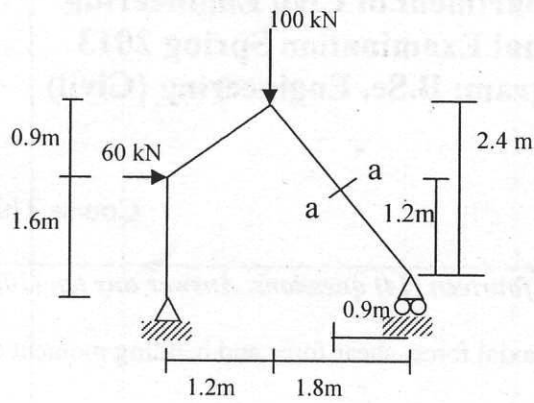

Fig.4
4. Calculate the reactions at supports in the following frame structure shown in Fig.4 and also find out the Axial Force, Shear Force and Bending Moment at section a-a.